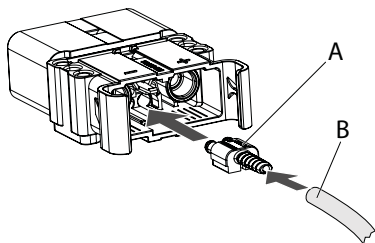

Fig. 18:
1. Push the air hose (Fig. 18/B) as far as it will go onto the air tube (Fig. 18/A).